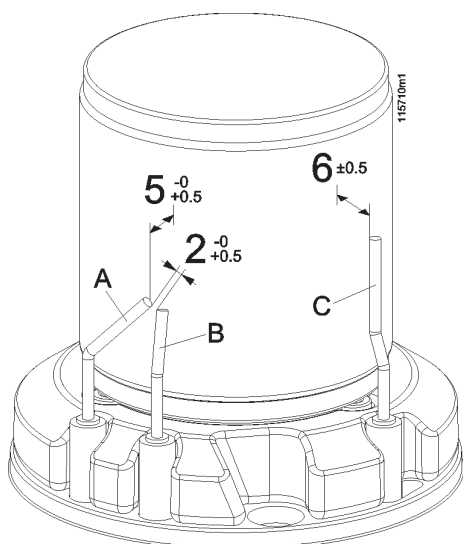

Figure 8.6 - positioning the electrodes on the burner
- 7.- extract the siphon outwards (see figure 8.6) paying attention to disconnect the collection pipes of the water coming from the upper part of the appliance and from the air vent valve.
For good working order of the appliance, it is indispensable that the electrodes are positioned correctly (refer to figure 8.6):